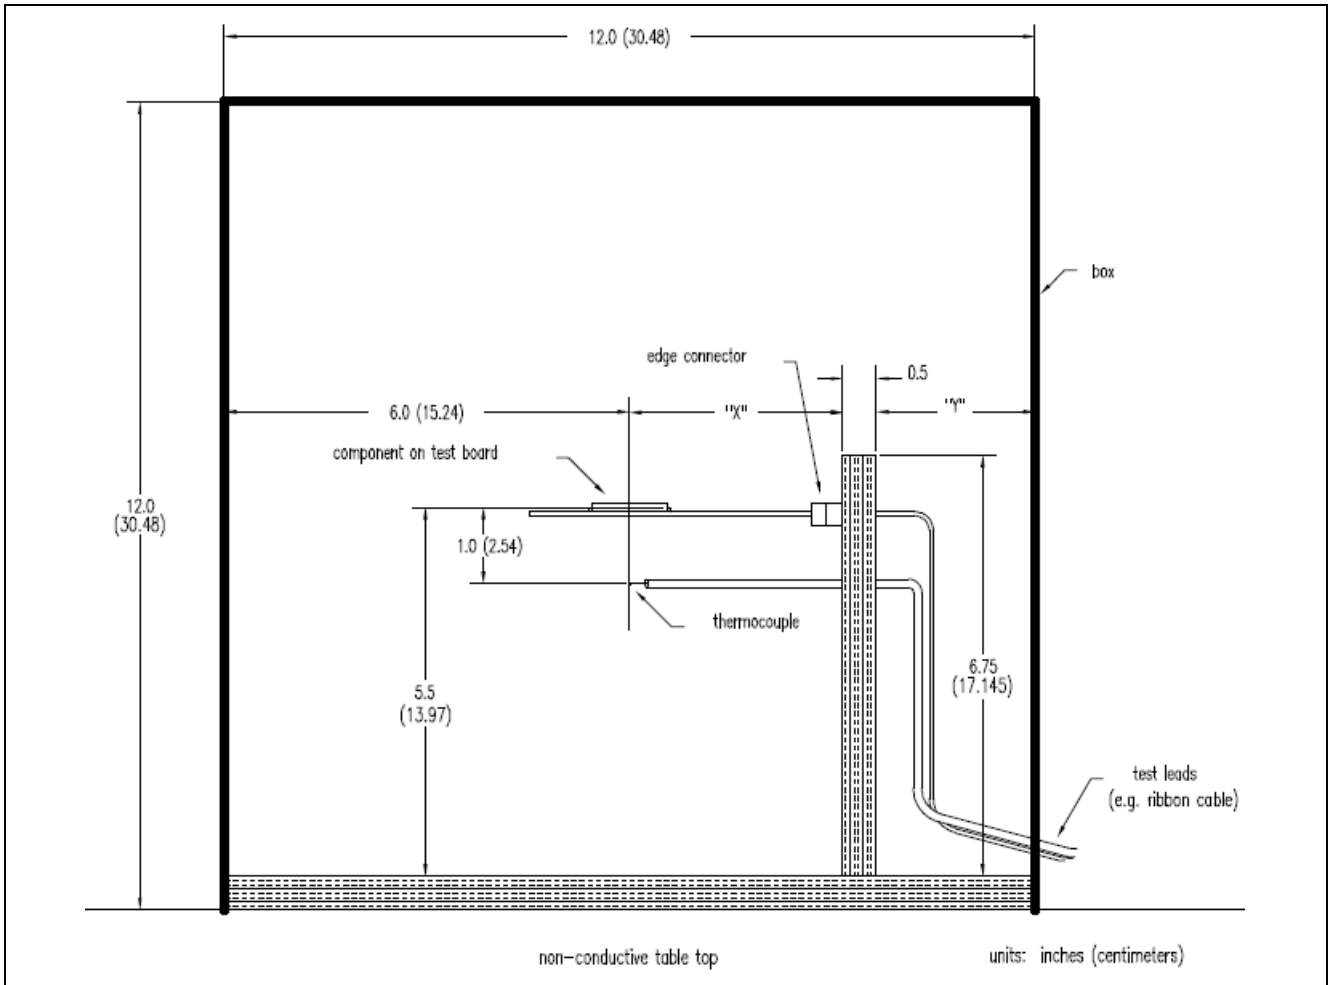
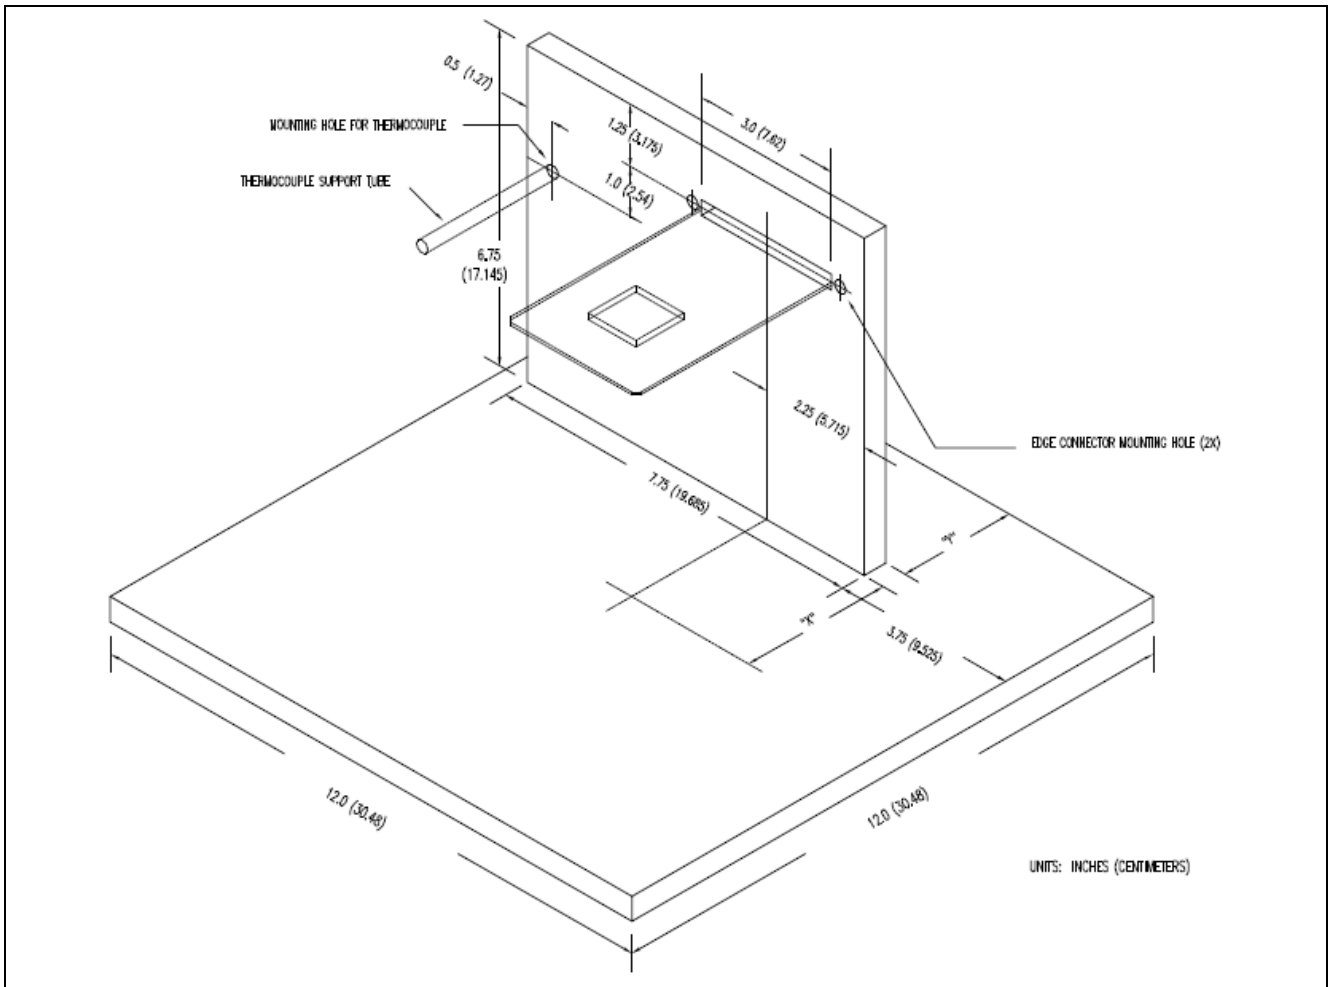

Figure 2-1 Ta measurement position (from the EIA/JEDEC 51-2 Standard)
Figure 2-2 Ta measurement position - bird's eye view (no chassis)
- Ta (ambient temperature): Ta is the temperature at a place that is not affected by heat sources and is based on measurement methods stipulated by JEDEC (Figure 2-1 and Figure 2-2). See the EIA/JEDEC Standard 51-2 for details. Also see the product and package information that Renesas provides on its website.